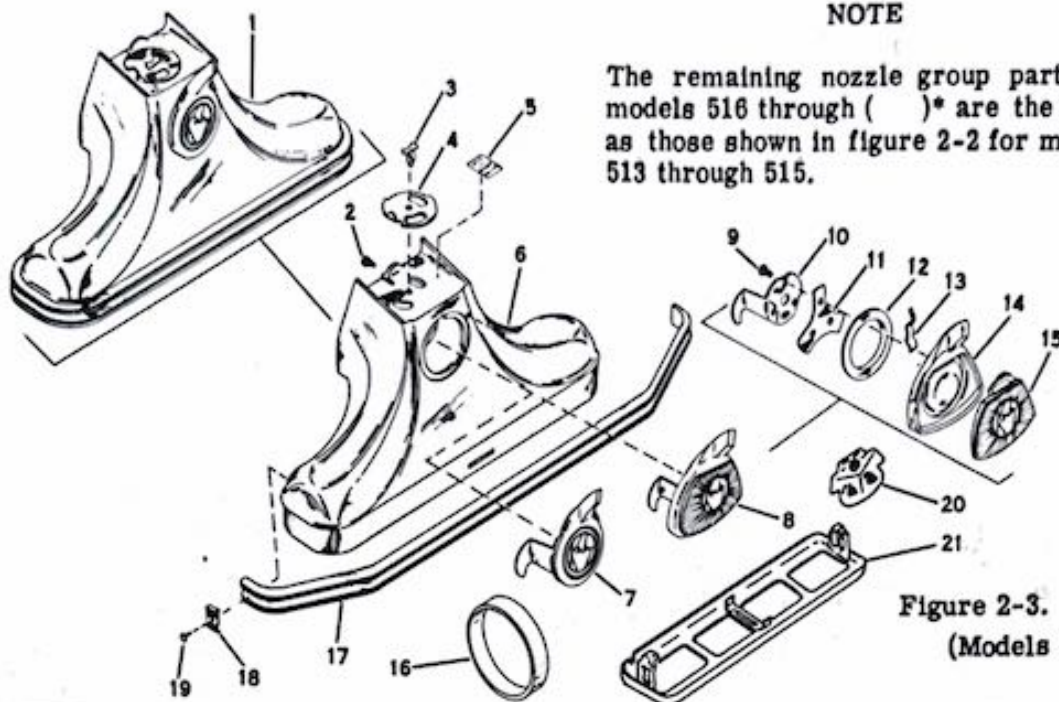

Figure 2-3. Nozzle Group
a. Remove the belt lifter stop screw (2, fig. 2-3) through the hole at the back of the nozzle as shown in figure 2-7.
b. Rotate the belt lifter (7 or 8, fig. 2-3) to align the flanges with the slots of the nozzle casting (6); remove the belt lifter.
c. Disassemble the Model 560/()* belt lifter by removing the three screws (9); remove the hook (10), spring (11), and bearing (12). Pull the clip (13) from the cap casting (14) and push out the plastic insert (15). Reassemble in the reverse order, taking care that the flanged side of the bearing is toward